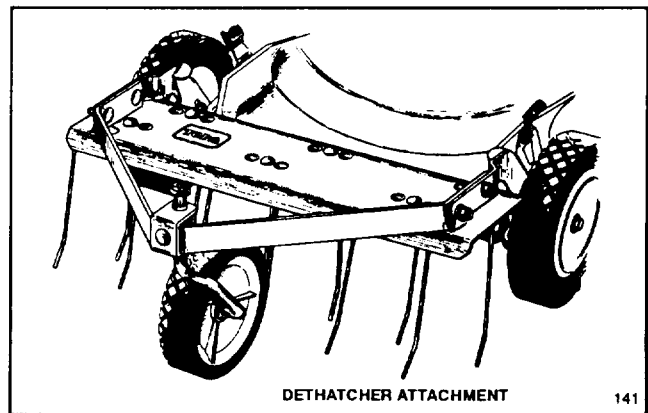

Figure 29
3. **Dethatcher Kit, Model 59131 (self-propelled model only)**—Installs in minutes. Front mounted for easy maneuverability. Spring tines loosen thatch for easy cutting (Fig. 29).